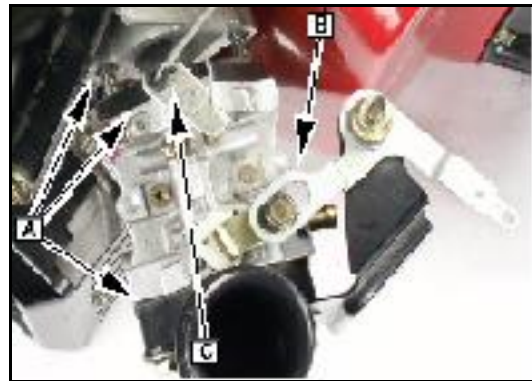

Fig. 17
- Install the carburetor assembly as shown in (Fig. 17).
Refer to (Fig. 17)